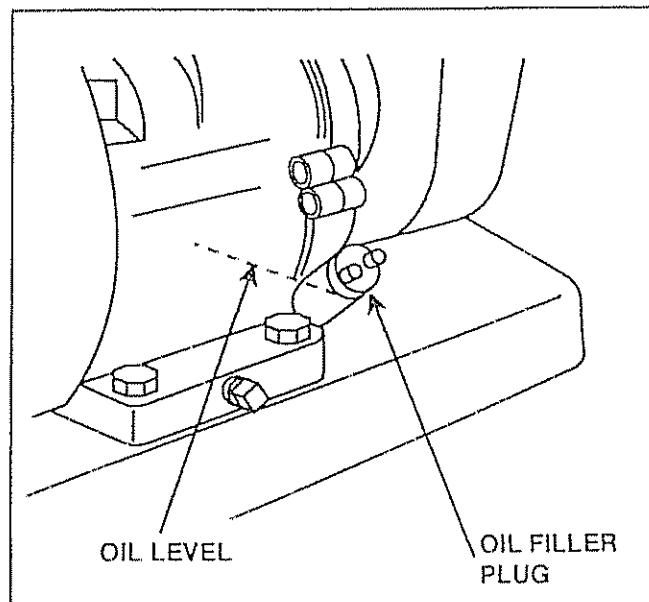

FIGURE 9
- With Engine level, remove Engine Oil Filler Plug (Fig. 9).